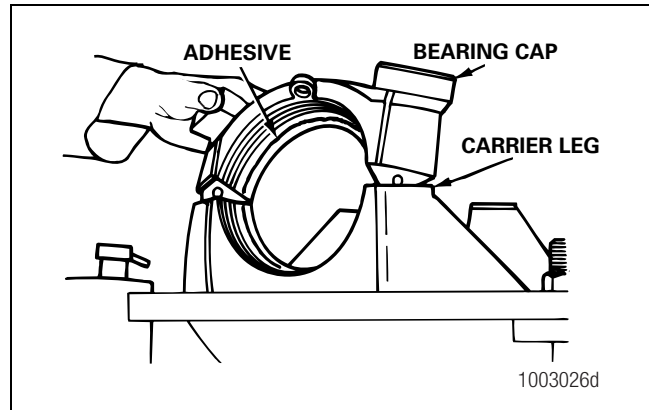

Figure 5.31
4. Apply Meritor specification 2297-P-3994, Loctite® 680 adhesive, or equivalent evenly in the bearing bores of the carrier legs and bearing caps. Cover the surfaces completely. The adhesive must not contact the adjusting ring threads. Figure 5.31. Refer to Section 4.